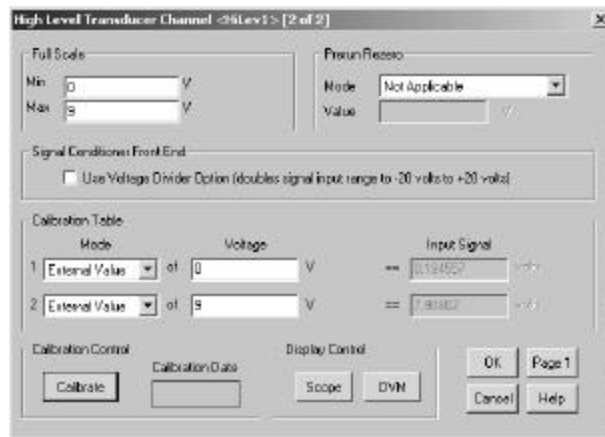

Figure 7-8: High Level Transducer Channel Dialog Box (Page 2)
3. Select the Page 2 button (bottom-right corner of dialog box) to go to Page 2 of the dialog box. **Figure 7-8** shows that dialog box page with sample data in it.